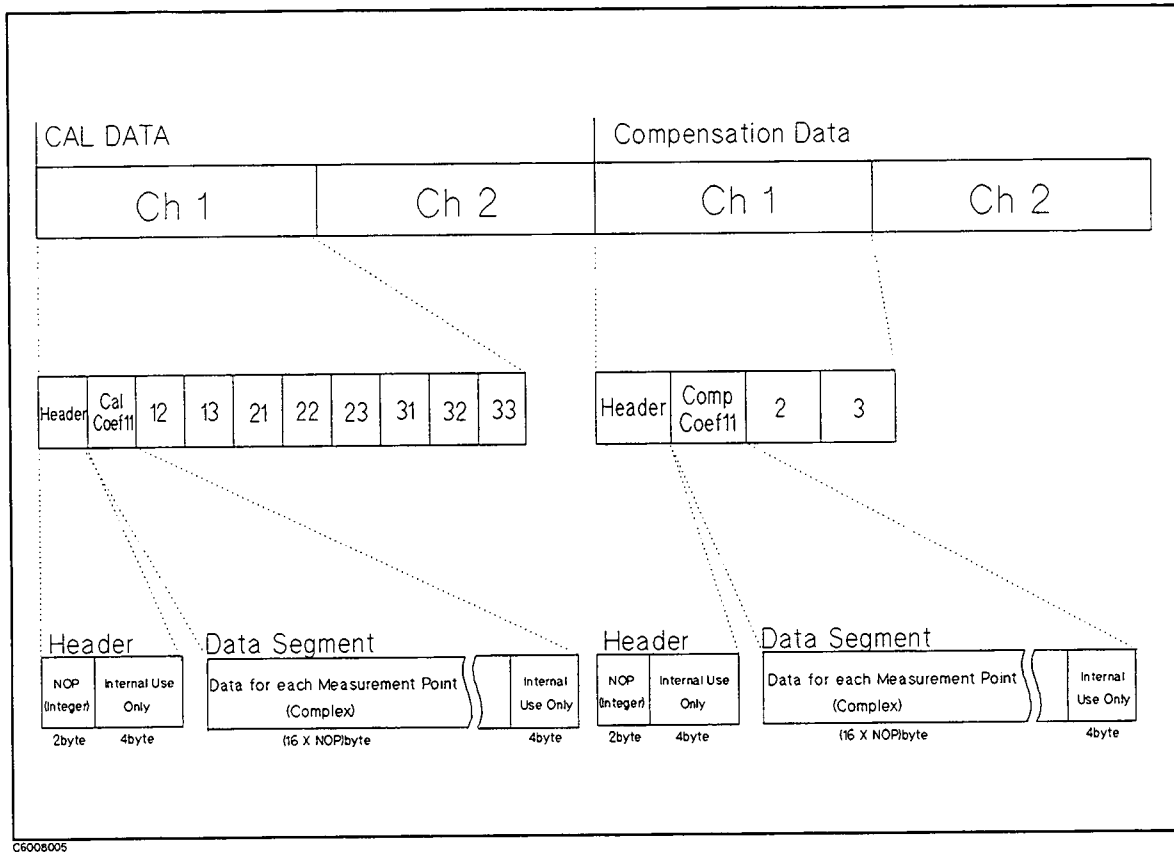

Figure 8-33. CAL Data Group Structure
- **CAL** consists of data segments by a channel as shown in Figure 8-33. The first half of the segments are for channel 1 and the second half of the segments are for channel 2. The contents of each segment depend on the type of calibration performed. (See “**Cal**” in Chapter 5.)